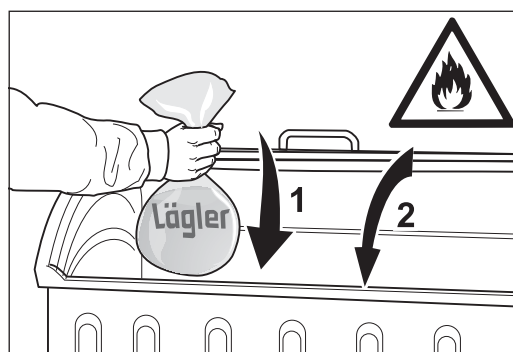

Fig. 44 Place the filled dust bag into a **non-combustible** container (1) and keep this closed (2) → **risk of fire!**
- **The dust bag must always be removed from the machine directly after sanding (fig. 44, 1)! Place the sealed dust bag in a non-combustible container! Cover this container with a non-combustible cover (fig. 44, 2) and be certain to store it outdoors in non-combustible environment!**
- 7 In order to preclude any damages by fire or explosion, throw the sealed dust bag in a non-combustible container (fig. 44, 1)! Cover this container with a non-combustible cover (fig. 44, 2)!